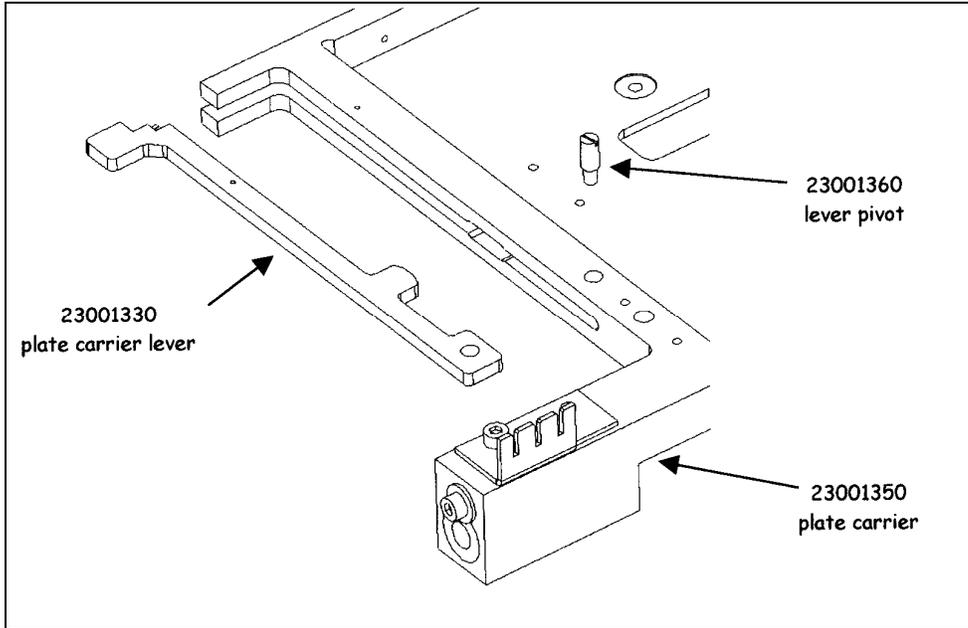

Figure 9-25 Locking Lever/Pivot and Spring
The plate is held in place by the Locking Lever/Pivot/Spring mechanism shown in Figure 9-25.
- 2 Remove the Lever Pivot (Part No. 23001360) (Figure 9-25).